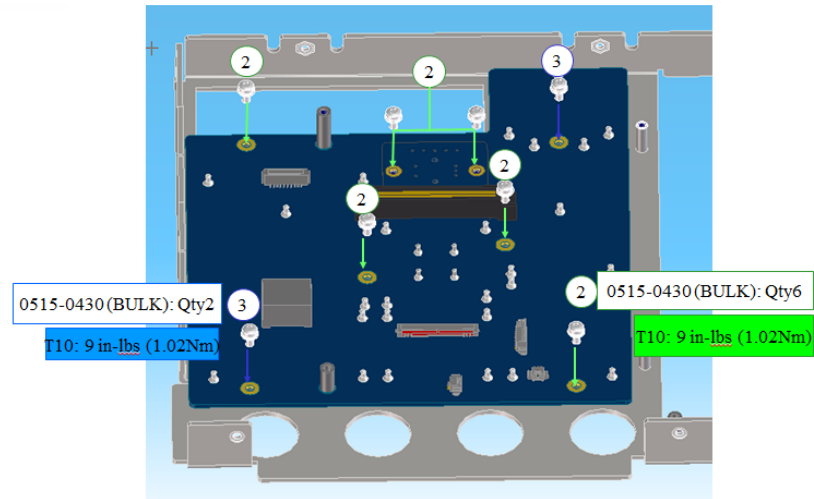

Figure 2-1
1. Install the keyboard on the new front panel sub as shown in figure 2-1.